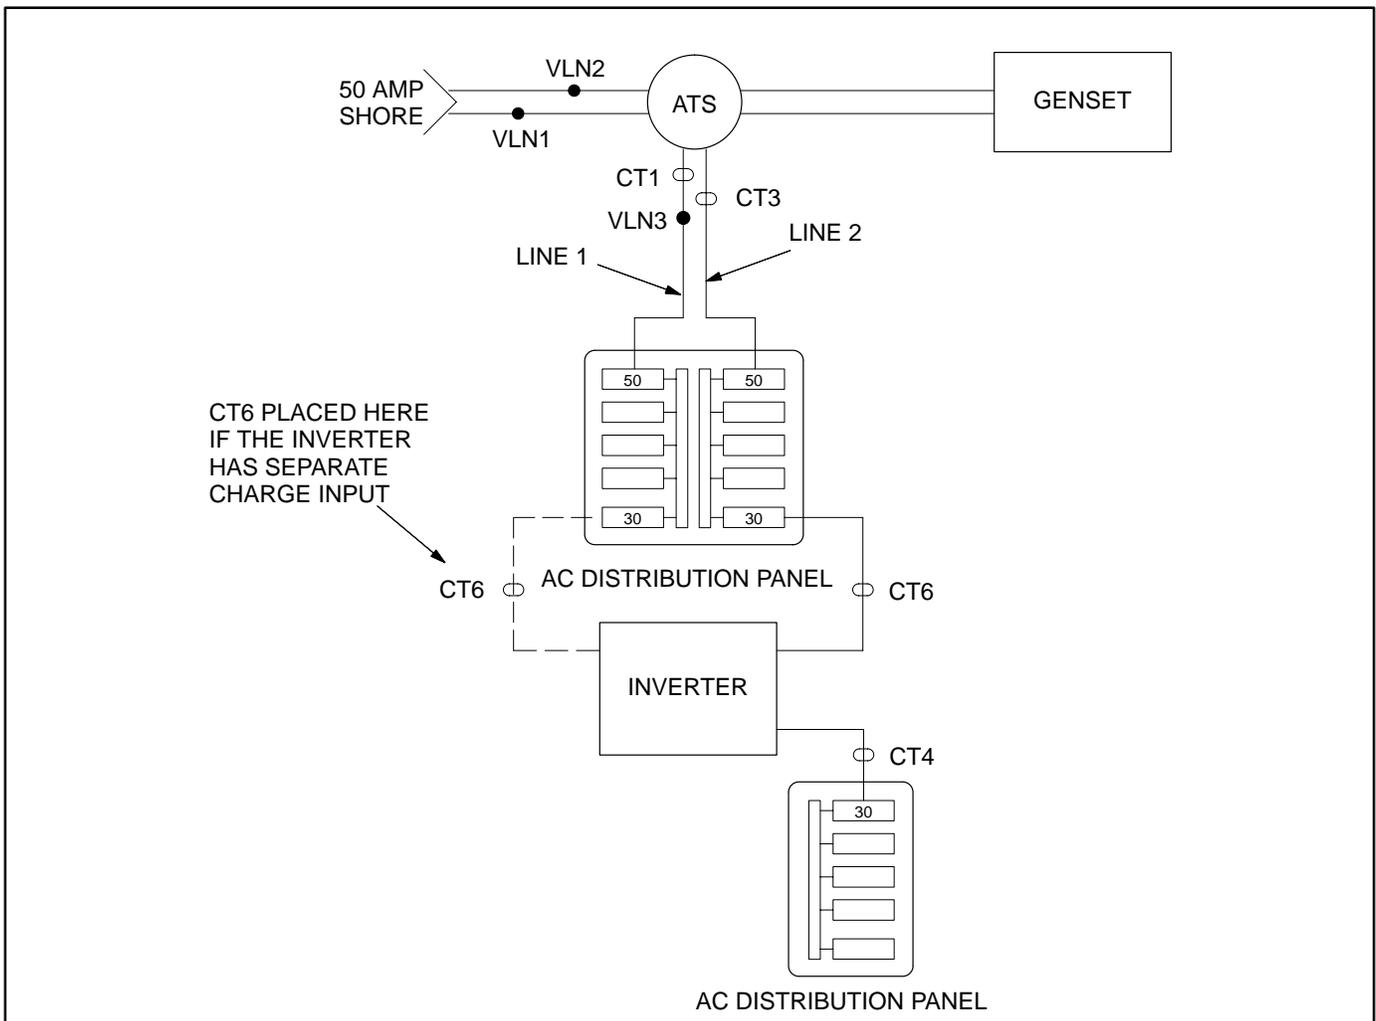

FIGURE 12-9. CONFIGURATION 3
- Configuration 3: Figure 12-9